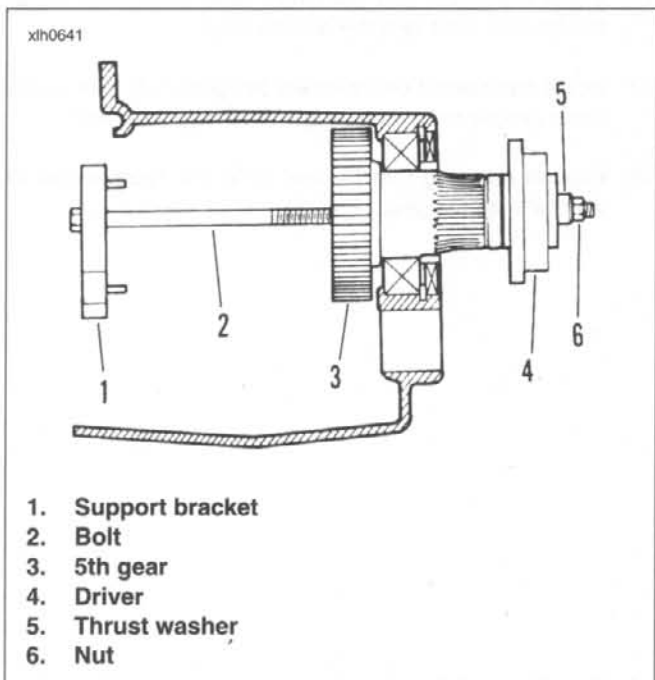

Figure 6-53. Removing Main Drive Gear
4. See Figure 6-53. Insert bolt (2) through support bracket (1) and 5th gear (3).